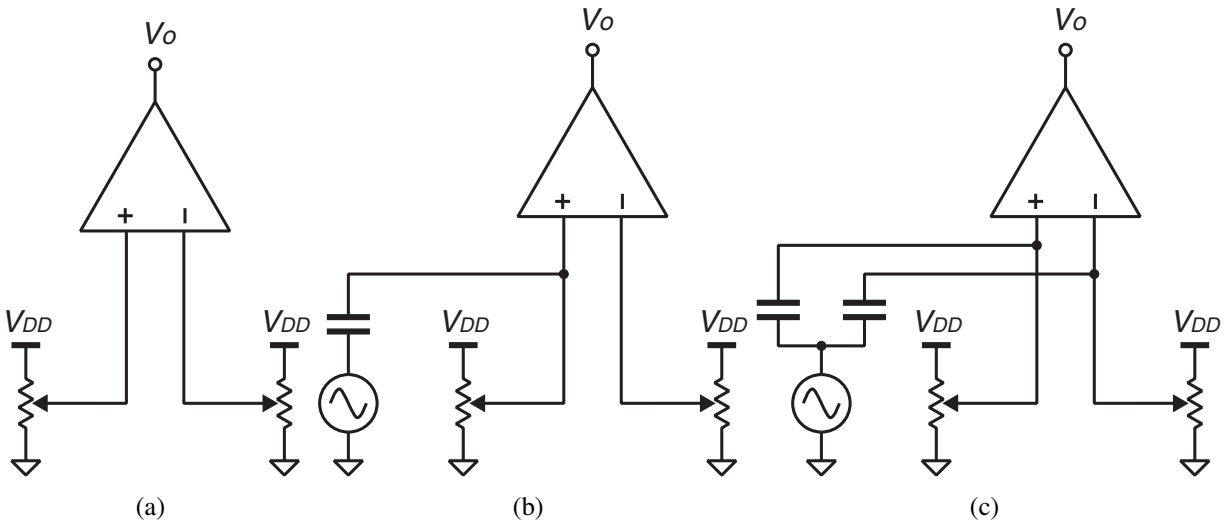

Figure 3: (a) Circuit configurations for offset cancellation, (b) differential gain (A_d) measurement, and (c) common-mode gain (A_c) measurement.
2. Adjust the bias current (I_B) to 1 mA, and set the opamp inputs to the common-mode voltage found in preparation using two multi-turn potentiometers as shown in Figure 3(a) .
4. Connect one of the opamp inputs to a signal generator via a large capacitor as shown in Figure 3(b) and find the differential gain (A_d) of the opamp.
5. Connect both of the opamp inputs to a signal generator via separate capacitors as shown in Figure 3(c) and find the common-mode gain (A_c) of the opamp. Calculate the CMRR.